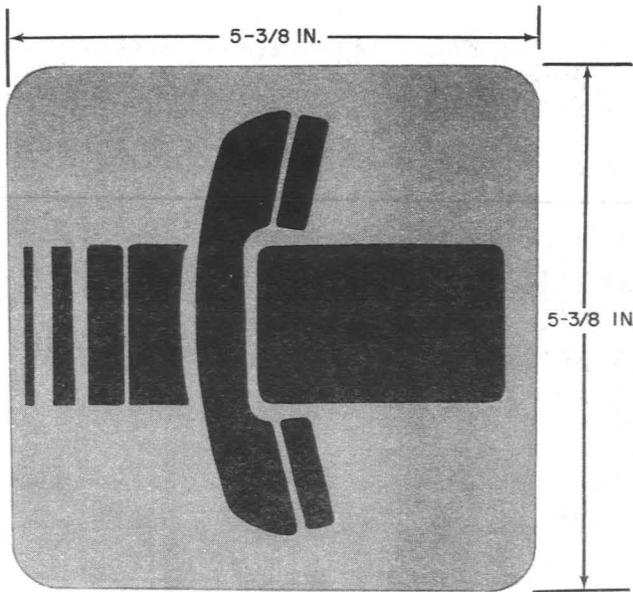

Fig. 14—KS-20064, List 18 Sign
- Same as List 18 (Fig. 14) except has white graphics on blue background
(r) KS-20064, List 18 (Fig. 14):